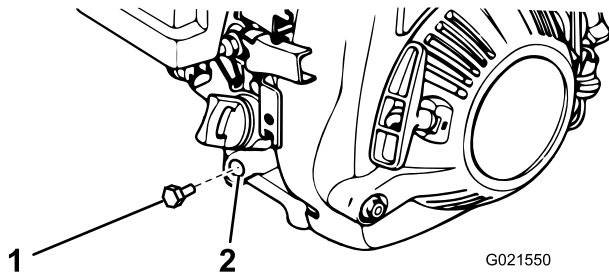

Figure 24
3. Place a drain pan under the oil-drain hole of the engine (Figure 24).
4. Remove the drain plug and catch the oil in the oil-drain pan (Figure 24).
5. When the oil has drained completely, install the drain plug with a new washer (Figure 24).